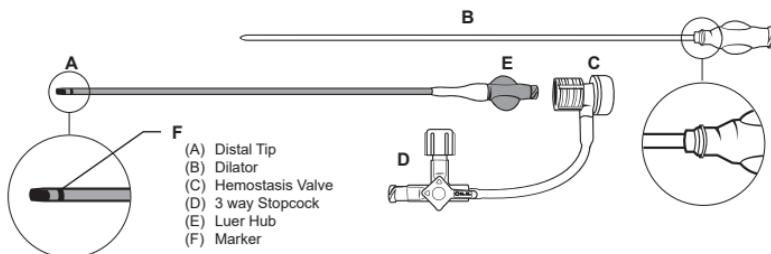
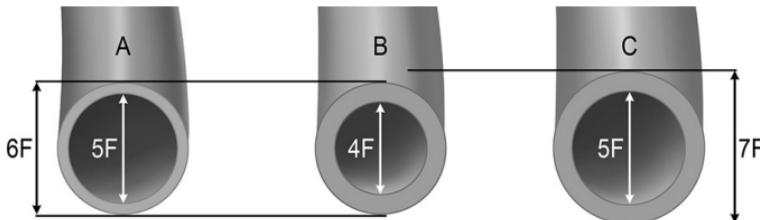

Figure 1
Figure 2: Thin-wall design (A) of 5F HALO ONE™ sheath in relation to a standard 4F (B) and 5F sheath (C)
The HALO ONE™ Thin-Walled Guiding Sheath consists of a thin-walled (up to 1F reduction in outer diameter compared to standard sheaths of equivalent French size) sheath made from braided single-lumen tubing, fitted with a female luer hub at the proximal end and a formedatraumatic distal tip (A) (Figure 1). The thin-wall design reduces the thickness of the sheath wall to help facilitate intravascular access from access sites including but not limited to radial, femoral, popliteal, tibial, and pedal. (Figure 2).